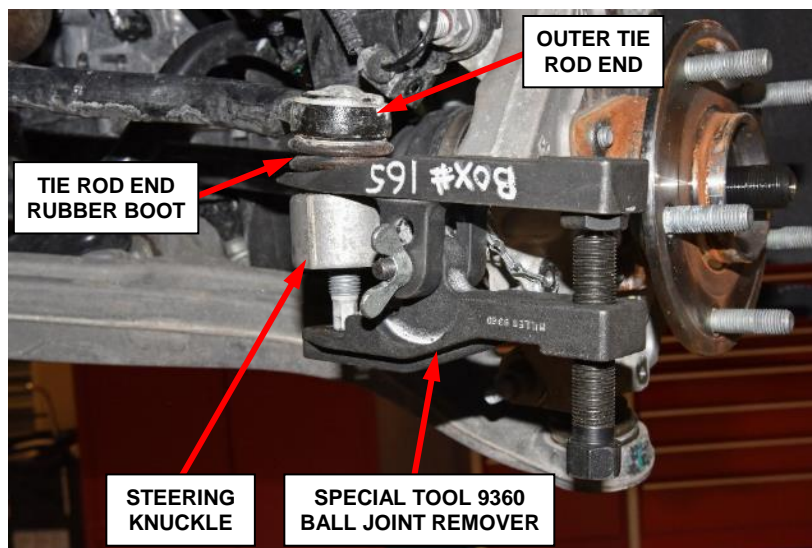

Figure 11 – Separate Tie Rod from Steering Knuckle
13. Use special tool 9360 Ball Joint Remover or equivalent, to separate the outer tie rod from the steering knuckle. Take care to not damage the outer tie rod end rubber boot (Figure 11).